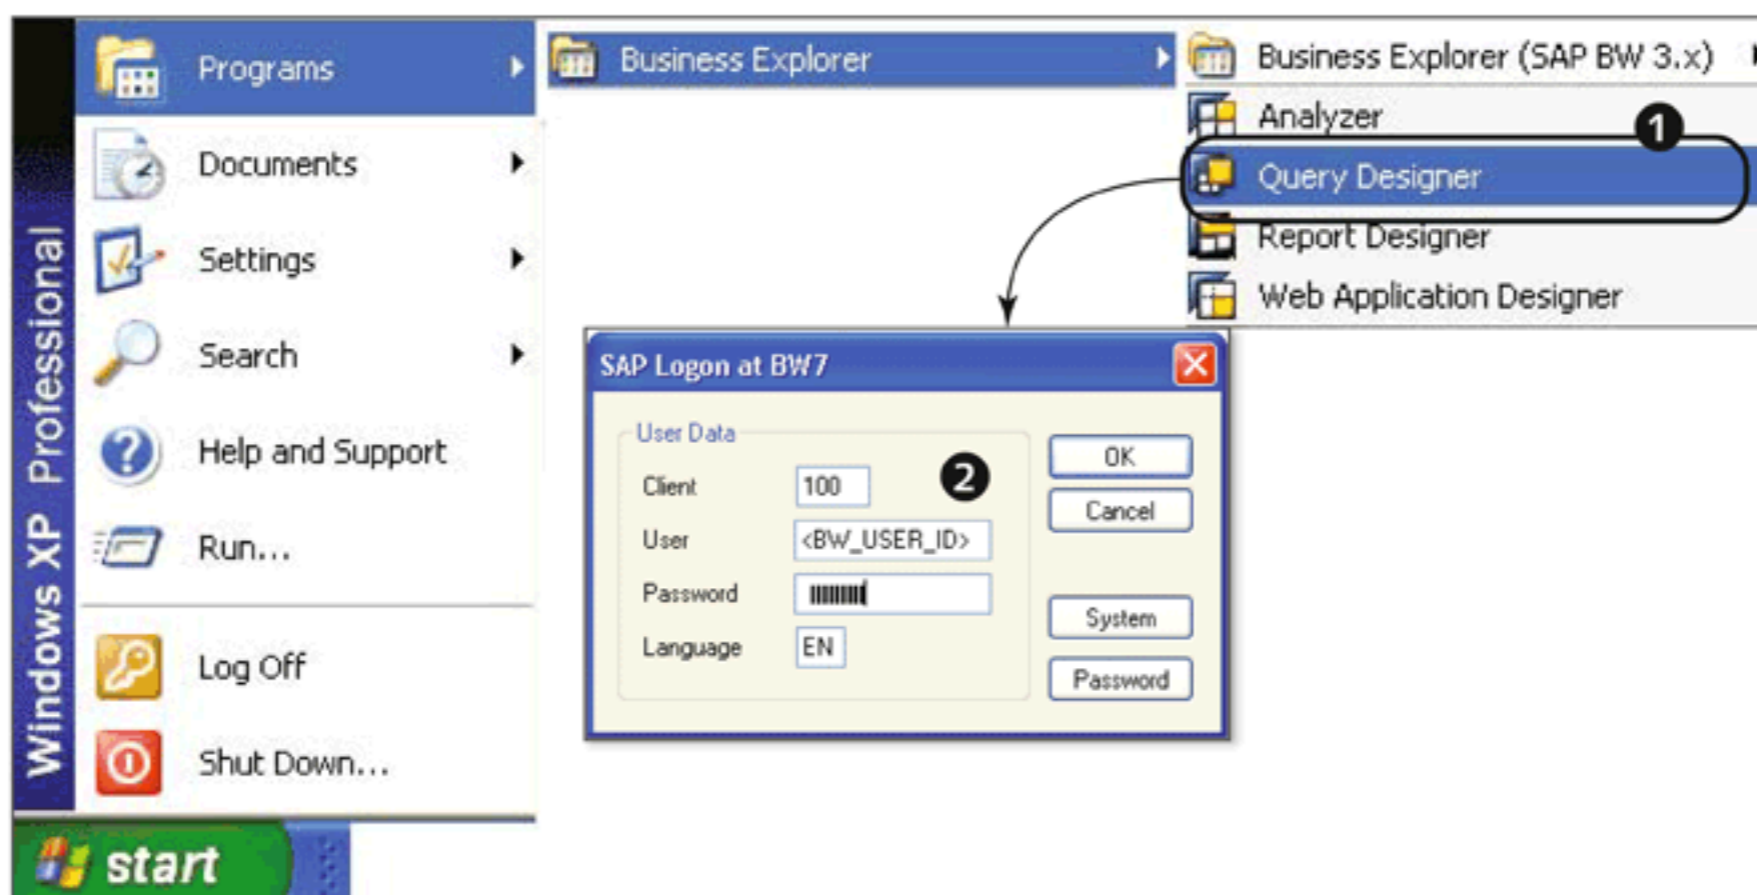

Figure 9.2 Start BEx Query Designer
BEx Query Designer is a standalone application, so you don't need to log in to the SAP NetWeaver BW frontend applications. It can be launched directly from the START menu of your computer using the path: START • PROGRAMS • BUSINESS EXPLORER • QUERY DESIGNER (❶ of Figure 9.2). Select the SAP NetWeaver BW system and login using the user ID and password (❷).